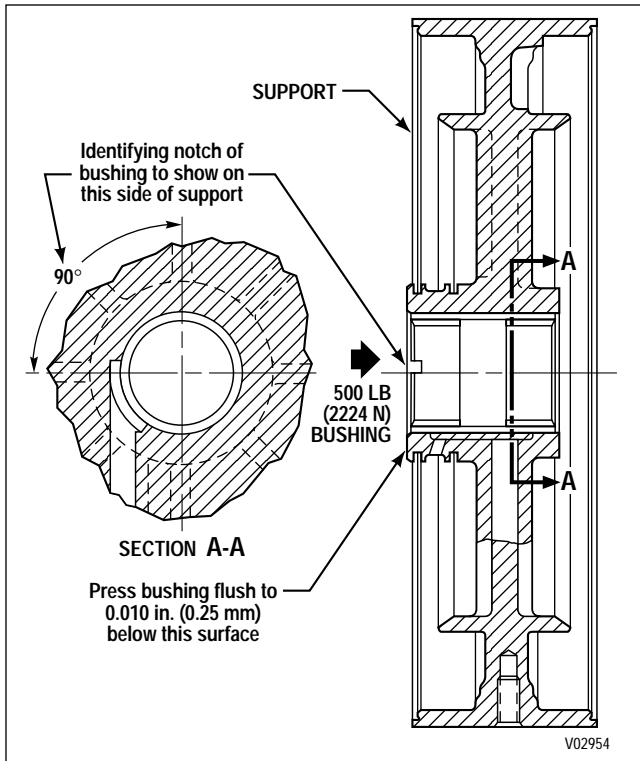
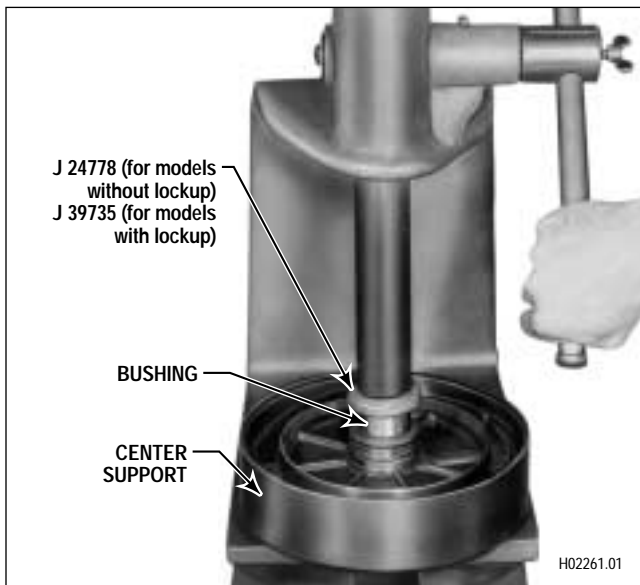
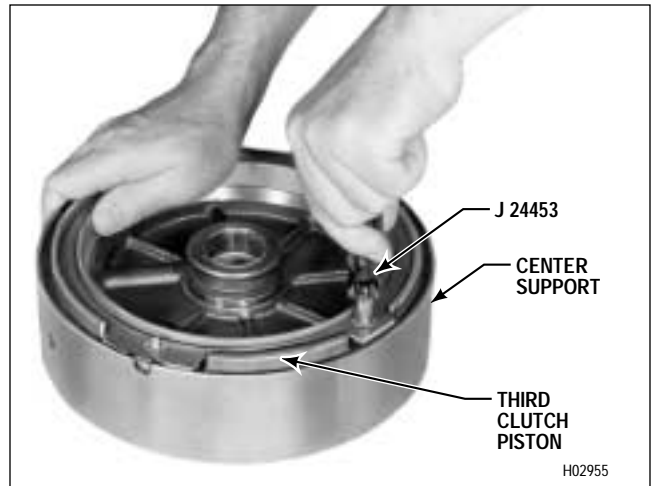

Figure 6-48. Center Support Assembly
Figure 6-49. Installing Center Support Bushing
Figure 6-50. Installing Self-Locking Retainer Washer
(1) Place center support 15 in a press, sealing grooves side upward. To ensure proper alignment of the oil hole in bushing 14 with the notch in support 15, the identifying notch of the bushing must lie in the area indicated (Figure 6-48). Using bushing tool J 24778 (for models without lockup) or J 39735 (for models with lockup), install bushing 14 (Foldout 9,B) as shown in Figure 6-49.
(2) If a special bushing tool is not available, press bushing 14 flush to 0.010 inch (0.25 mm) below the surface adjacent to the bore. The bushing must withstand 500 pounds (2224 N) of end load as specified in the direction of Arrow A in Figure 6-48 after assembly.
(3) Place piston 9 (Foldout 9,B) in its bore without the piston sealrings in place, with the four ejector pin bosses upward. Install piston return springs 8 in the twelve holes in third clutch piston 9.
(4) Place spring retainer 7 on piston 9, aligning the four holes in the piston. Using tool J 24453, install four new self-locking retainer washers 6 onto the eight ejector pin bosses (Figure 6-50).
(5) Remove piston 9 from the support assembly.
(6) Repeat steps (3) through (5) for piston 18.
(7) Install sealrings 10 and 17 into the inside diameter groove of pistons 9 and 18. Install sealrings 11 and 16 into the outside diameter grooves of pistons 9 and 18. Be sure the lips of the sealrings and the flat side of the piston face the same direction. Special care is required to prevent distortion, cutting, or stretching of the sealrings. Apply oil-soluble grease to the sealrings.
(8) Install two hook-type sealrings 12 onto the hub of center support 15.